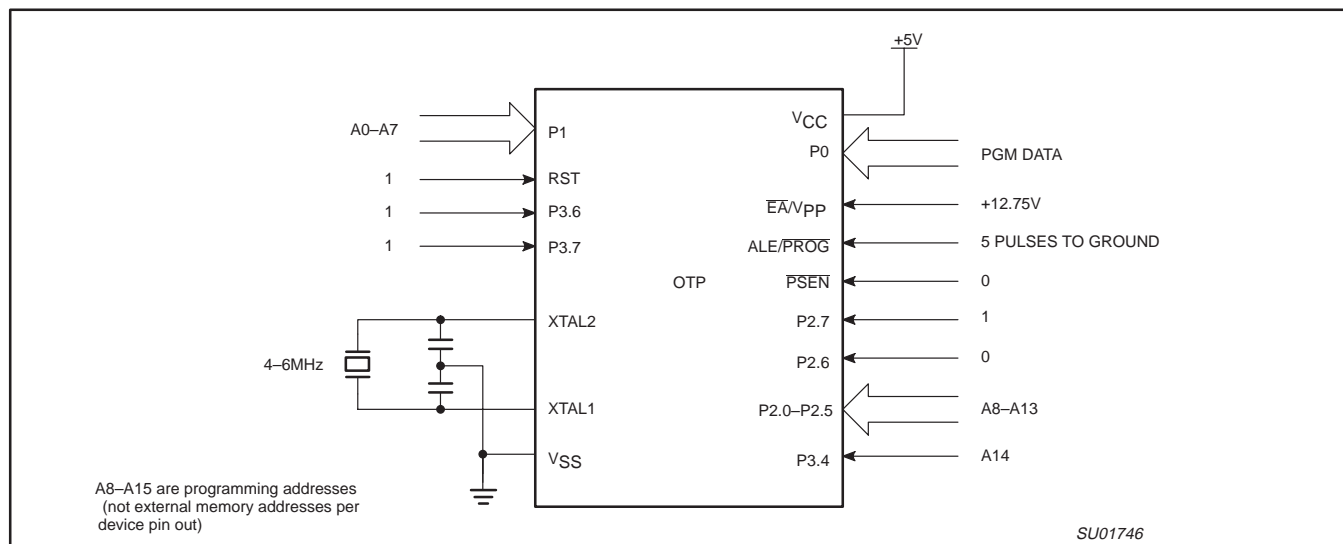
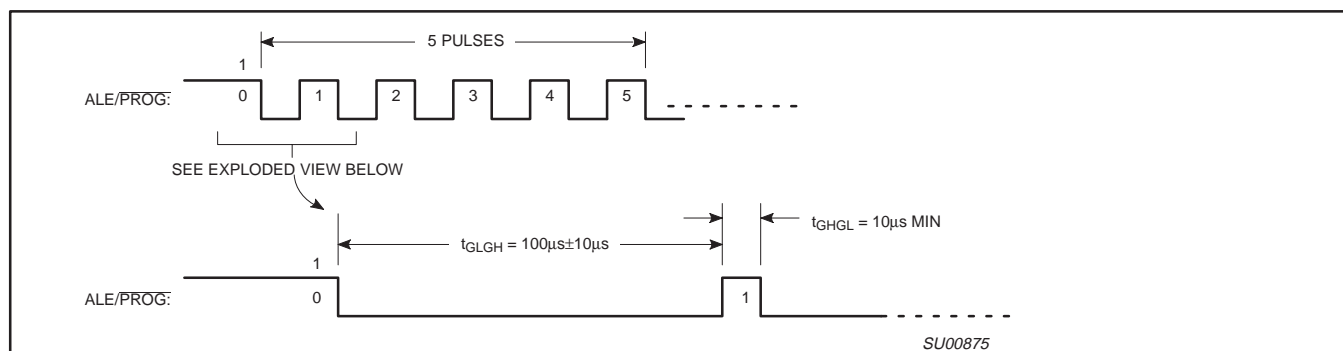
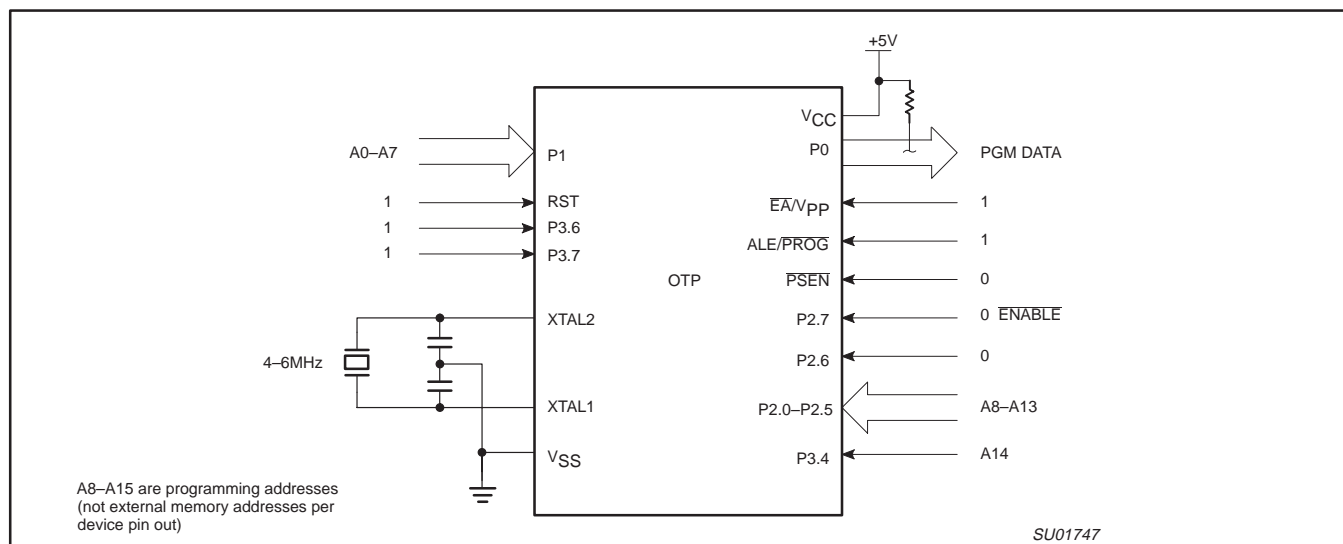

Figure 49. Programming Configuration
Figure 50. PROG Waveform
Figure 51. Program Verification
Table 15 shows the logic levels for reading the signature byte, and for programming the program memory, the encryption table, and the security bits. The circuit configuration and waveforms for quick-pulse programming are shown in Figures 49 and 50. Figure 51 shows the circuit configuration for normal program memory verification.
The setup for microcontroller quick-pulse programming is shown in Figure 49. Note that the device is running with a 4 to 6MHz oscillator. The reason the oscillator needs to be running is that the device is executing internal address and program data transfers.
The address of the EPROM location to be programmed is applied to ports 1 and 2, as shown in Figure 49. The code byte to be programmed into that location is applied to port 0. RST, \overline{PSEN} and pins of ports 2 and 3 specified in Table 15 are held at the 'Program Code Data' levels indicated in Table 15. The ALE/PROG is pulsed low 5 times as shown in Figure 50.
If security bits 2 and 3 have not been programmed, the on-chip program memory can be read out for program verification. The address of the program memory locations to be read is applied to ports 1 and 2 as shown in Figure 51. The other pins are held at the 'Verify Code Data' levels indicated in Table 15. The contents of the address location will be emitted on port 0. External pull-ups are required on port 0 for this operation.
* FOR PROGRAMMING CONFIGURATION SEE FIGURE 49.
FOR VERIFICATION CONDITIONS SEE FIGURE 51.